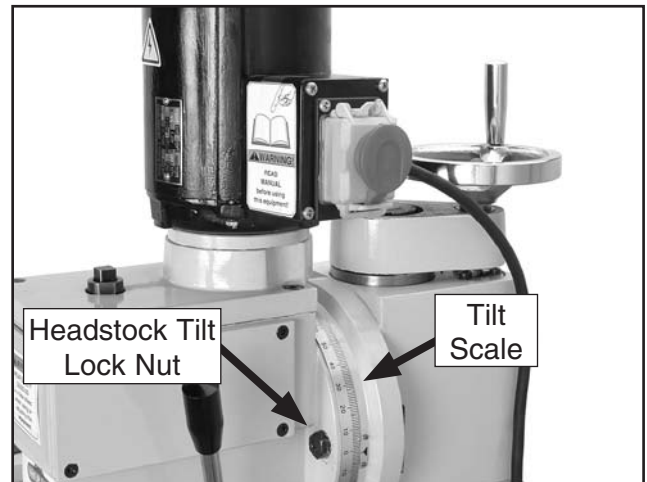

Figure 42. Headstock lock nut.
4. While supporting the headstock, use a 17mm wrench and loosen both left and right headstock tilt lock nuts (**Figure 42**), then tilt the headstock to your desired angle. Retighten the lock nuts.